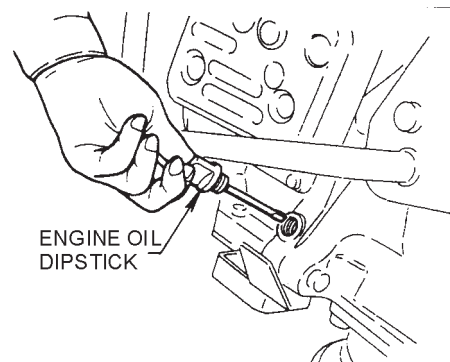
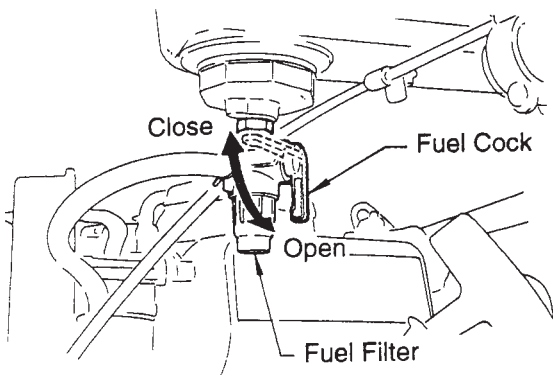

Figure 6. Engine Oil Dipstick
Figure 7. Fuel Cock
1. Open the fuel shut-off valve by moving the **fuel cock** lever to the **open** position (Figure 7) then set the engine start/stop switch (Figure 6) to the **"START"** position.